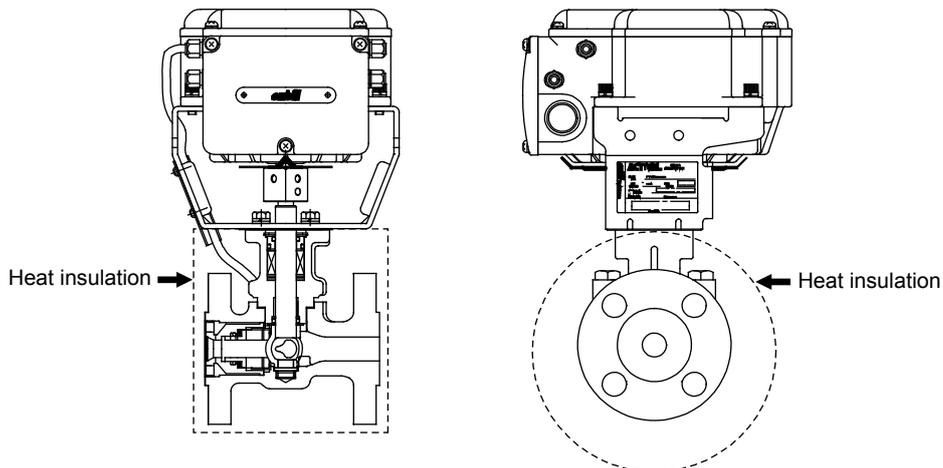

Figure 9. Heat insulating
- Apply heat insulation as illustrated by  in Fig. 9.